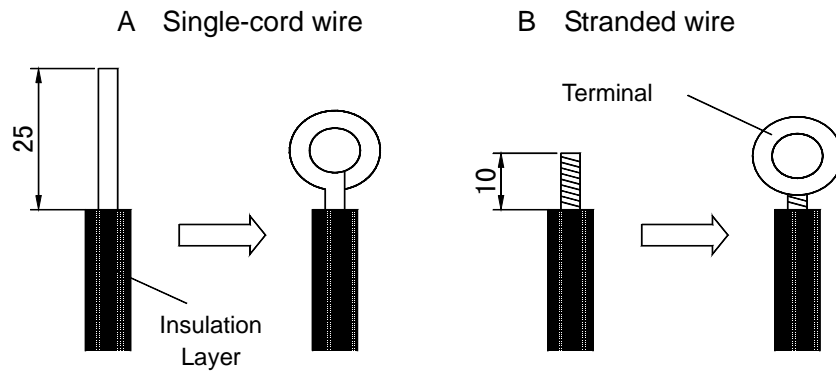

Fig.11-16
11.3.9 Connection of Electric Wire to Terminal Board See Fig.11-16.